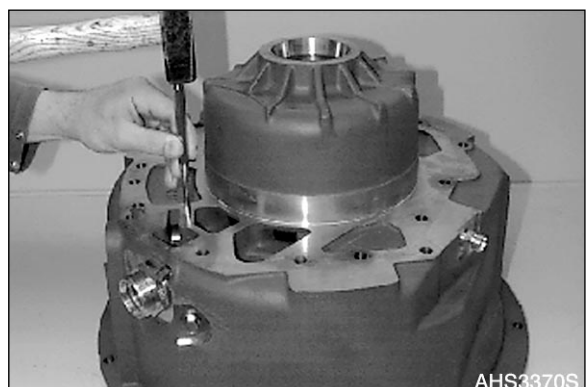
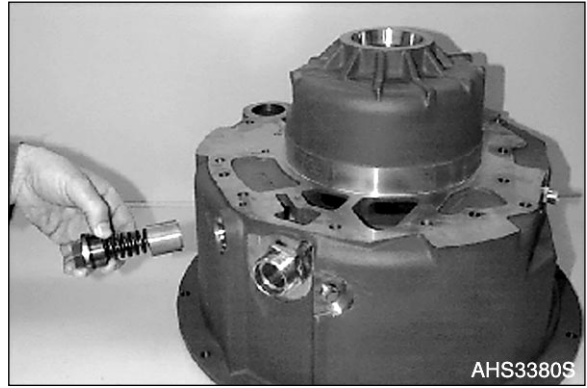

Figure 389
Figure 390
17. Converter Pressure Backup Valve (Figure 389 and Figure 390).